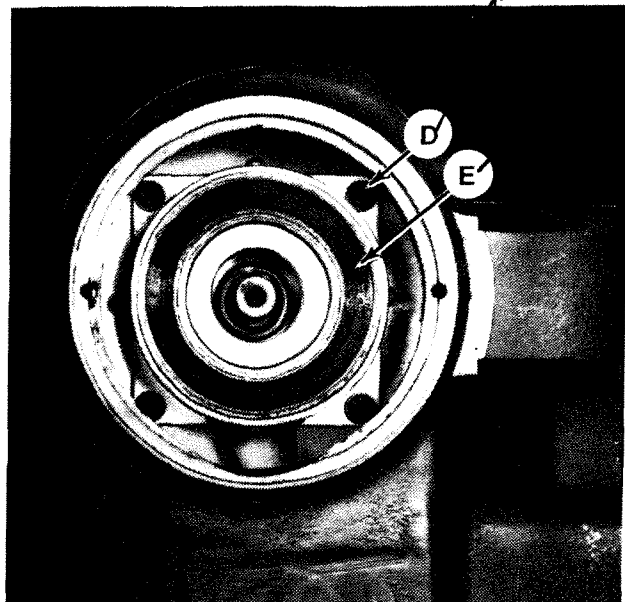

Figure 3.31 - Motor Brake
8. Remove four screws "D" and brake "E", Figure 3.31 .
9. Mount brake "E" using four screws "D", Figure 3.31 .